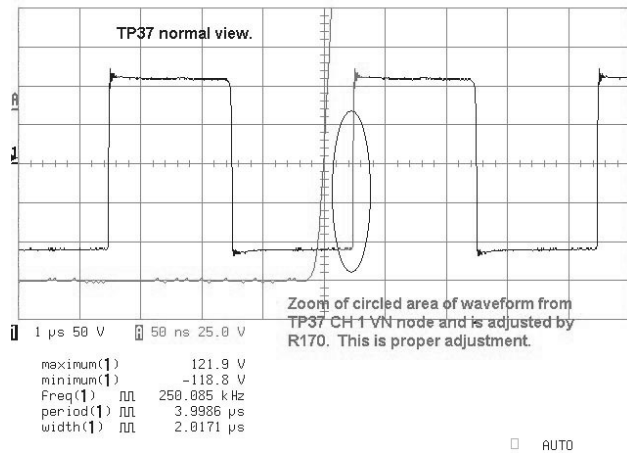
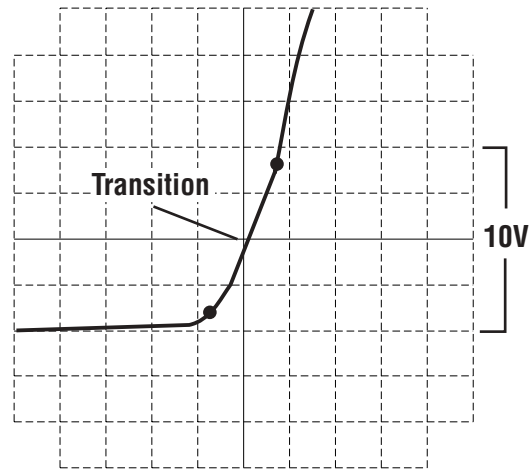
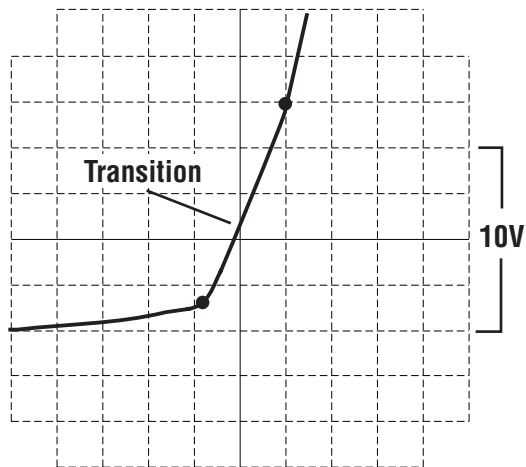
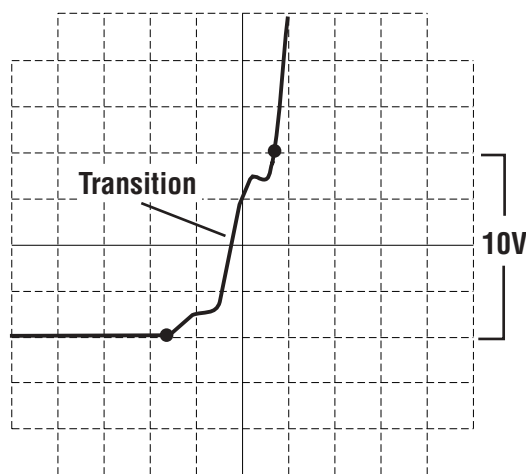

Figure 4.17 Overlap Adjustment
Figure 4.18 Correct Overlap Adjustment (Less than 10V)
Figure 4.19 Underlap
Figure 4.20 Excessive Overlap
**Procedure:** Monitor TP37 found on the Main PWA. Center oscilloscope to view lower right portion of waveform (see Figure 4.17). Adjust R170 for the sharpest-possible squarewave rising edges, with a transition curve less than 10.0V. Figure 4.18 shows a correct transition curve, Figure 4.19 shows “underlap” (under adjustment), where the transition curve exceeds 10.0V. Figure 4.20 shows “overlap” (over adjustment), where the transition curve is not “smooth.”